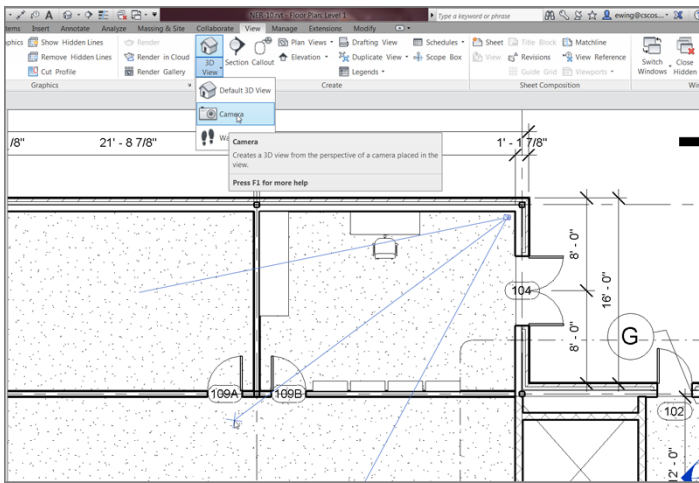

FIGURE 9.54: Adding a camera (perspective view) to the corner office
3. Pick a second point beyond the southwest corner, as shown in Figure 9.54. The new view opens. You'll probably want to stretch the crop boundaries.